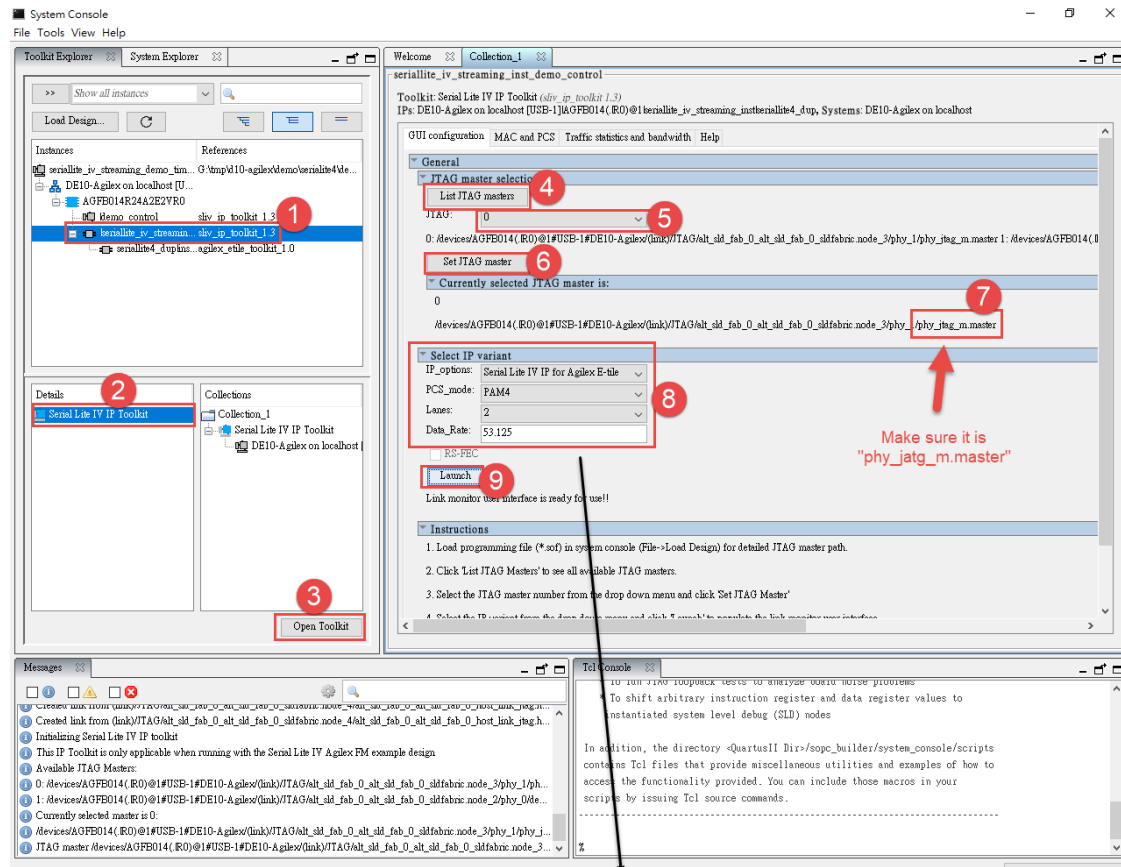

Figure 9-20 Setup JTAG Master and Serial Lite IV IP
- Please refer to steps 1~9 (1~9) on **Figure 9-20** to set the set JTAG master settings to enable communication between the development kit and toolkit.